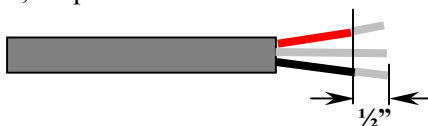

FIGURE 9: Audio Conductor Preparation
- 2) From the conductors, strip between ¼ to ½ inch of insulation from the ends (see Figure 9).